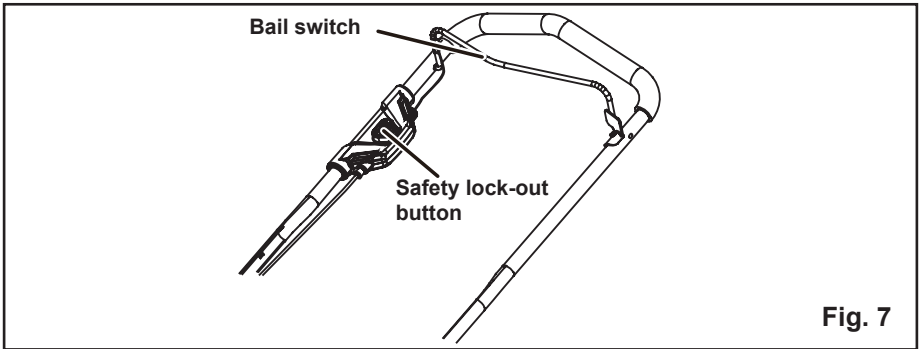

Fig. 7
- Press and hold the safety lock-out button (1). (See Fig. 7)
- Pull the bail switch (2) upward to the handle to start the mower and release the button.